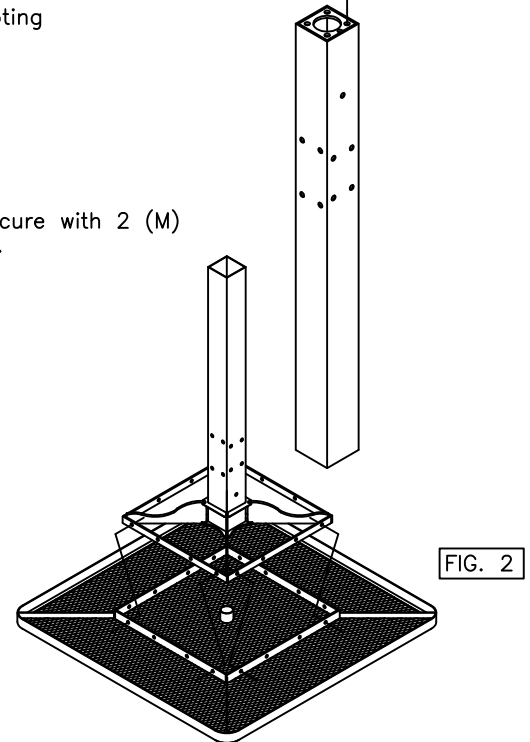

FIG. 2
Invert the top so it's upside down on a flat surface. Attach the (D1/C) assembly to the inside of the top's center square mounting frame, see FIG. 2. Use eight (G) and (K) using two (F) and one (N) per (G). Draw the fasteners to a snug fit with wrenches.